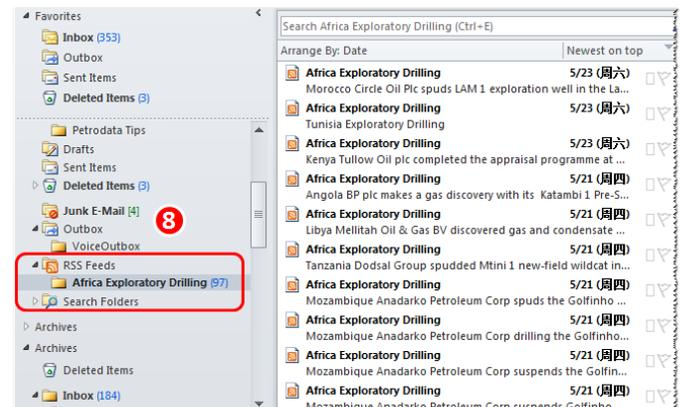

Fig 7-4: Create New RSS Feed
- (8) Open Outlook or other third party RSS Reader. Paste the RSS Feeds link where applicable (Fig 7-4).
As you can see in the Fig 7-4, the content as per the filtered criteria has been uploaded into Outlook (RSS Reader) separately from emails without the need to visit the website and run searches, which significantly saves time and prevents spam email.